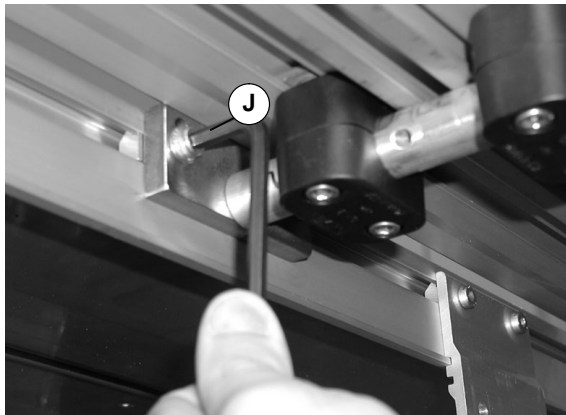

Figure 19
3. Loosen support bar mounting screws (J of Figure 19).